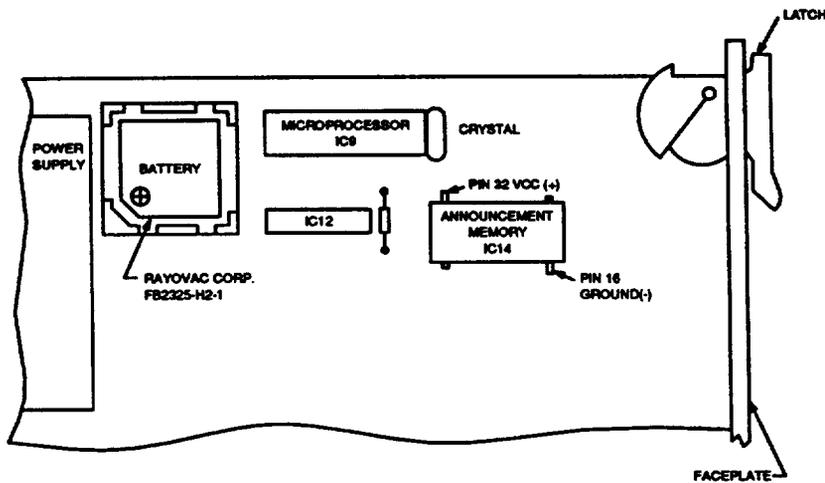
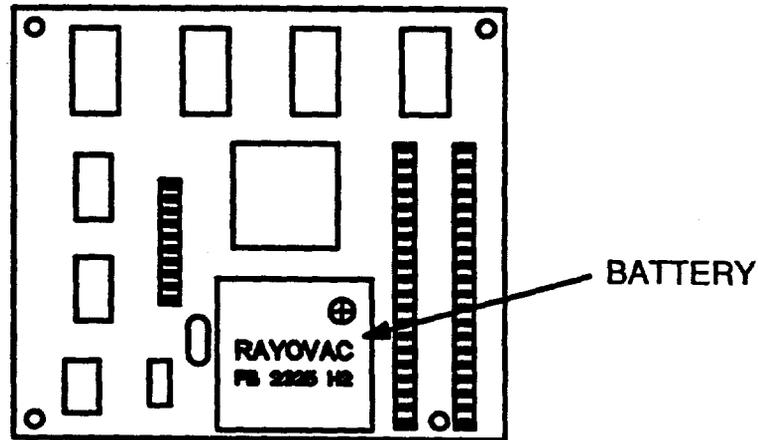

Figure 11. Locating Backup Battery and Announcement Memory on ALD2
Figure 12. Locating Backup Battery and Announcement Memory on ALD5
- (2) Pull the circuit pack forward and out of the apparatus mounting. (No electrical damage will be caused to an ALD1, ALD2, or ALD5 by removing or inserting it with power on.)
- (3) If the plug-in announcement module on the ALD1 is to be installed or removed, see Part 8G.
- (4) Before installing a new ALD2/ALD5 circuit pack in the 14A, check that the memory backup battery is installed in the battery socket. (See Part 9C and Figure 11 for the ALD2 and Figure 12 for the ALD5.)
- (5) Place the removed circuit pack or its replacement in the apparatus mounting tracks and slide it forward until it is fully mated with the 940A connector. Hold the spring-loaded latch forward until the pack is fully mated. Release the latch and check if it is in the latched position. (Diagnostics will be automatically run on the 14A.)
- (6) When an ALD2/ALD5 circuit pack is installed, the display will first read "STAND BY." During this time, a diagnostic test is being run. If the diagnostic test passes, the display will read "LOC MODE." If the display flashes on and off RECORD, a voice alarm will be generated. This indicates that the announcement memory contains no speech data and a recording must be made before the ALD2/ALD5 will operate. Press the SELECT pushbutton. The voice alarm will clear, the display will stop flashing, and the display will read "SIT SEL." At this time, a recording must be made. (See Part 8H.)
9.02 The memory backup battery on ALD2/ALD5 prevents the loss of the data stored in the announcement memory when power to 14A is interrupted. In normal operation, the battery will not become discharged. However, if the ALD2/ALD5 is unpowered for long periods of time (several years cumulative), the battery will eventually discharge and the data in the announcement memory will be lost. In order to check the battery, the ALD2/ALD5 must first be removed from the housing. (See Part 8E.) Place the ALD2/ALD5 on a nonconductive surface with the faceplate facing to the right. Locate pins 32 and 16 of the announcement memory. (See Figure 11 for the ALD2 and Figure 12 for the ALD5.) Using a battery operated DC voltmeter, measure the voltage between pin 32 (+) and pin 16 (-) of the announcement memory. If the voltmeter reads less than 2.00 V DC, the battery should be replaced.